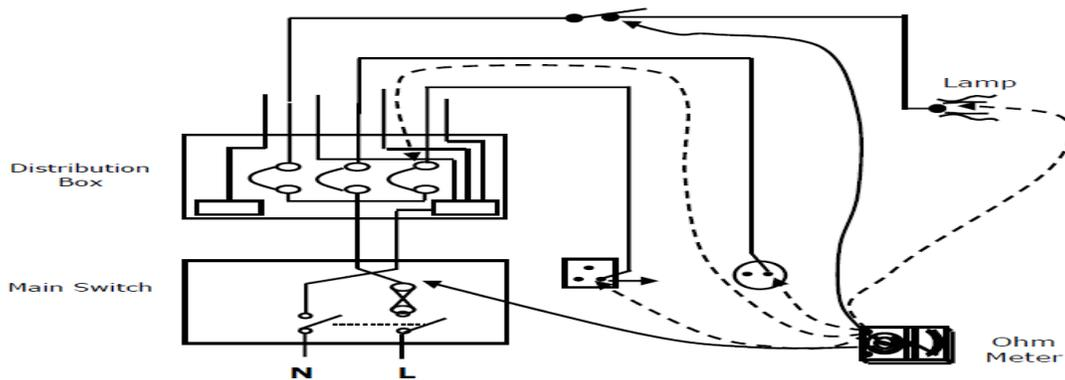

Figure 6.5 : Polarity Test
4. Carry out test as in Figure 6.5